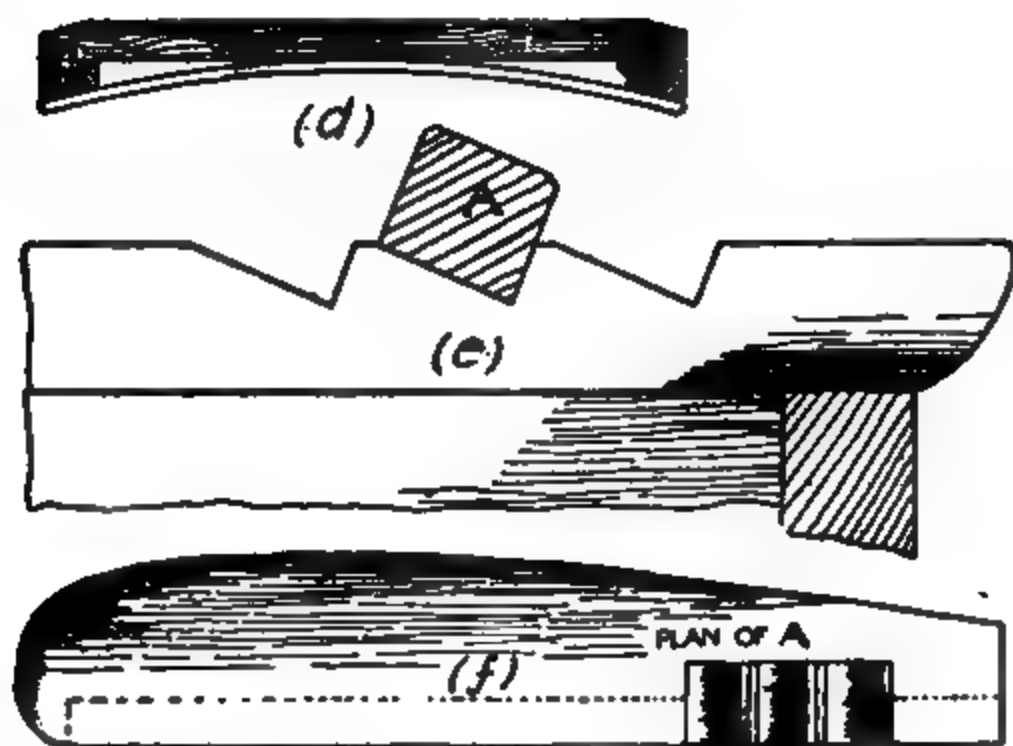

Fig. 41.—An adjustable garden chair.
**T**HIS chair (Fig. 41, *a*) is light and strong, and has a back that can be adjusted to any of several slopes.
*Construction.*—Before cutting-out is commenced, draw the side elevation (Fig. 41, *b*) full size on a sheet of brown paper, in chalk. This will save time and make construction easier.
The *seat* is composed of boards not more than  $\frac{3}{8}$  in. thick, so that they may be curved to fit the front rail, as seen in Fig. 41, *a*. To hold them down in position a 2"  $\times$  1" rail must be fixed fore-and-aft (Fig. 41, *c*) from the centre of R2 to C. It is notched into R2, and screwed to the under side of C. When this is in position the seat boards—the front one
The uprights,  $U U$ , of the *back* are 2 ft. 3 in. long and  $\frac{1}{4}$  in. narrower at the top end than at the bottom, for lightness' sake. They are held together behind by two cross-rails,  $E$  and  $F$  (Fig. 41, *b*). The ends of these rails are bevelled off, and the front faces of  $U U$  are shaped, as shown in Fig. 41, *d*, to the curve of the laths, which have to be nailed on,  $1\frac{1}{2}$  in. apart, to support the sitter's back. The laths must be straight-grained and free from knots, and be dipped in water before being bent. Nail on the top and bottom laths first. These touch the back rails, and will serve as gauges for the curves of the others. Allow a little "spare" at each end of the laths, to be removed when nailing is finished. Put a nail in at one end, bend the lath to the curve required, and drive in a nail at the other end; or a temporary batten may be screwed through the top and bottom laths into  $E$  and  $F$ , parallel to  $U$  and  $U$ , to hold all the other laths in their proper positions for nailing. When the back is complete, hinge it at  $B$  to  $C$  with a couple of "back flaps" (Fig. 41, *b*).
The *arms* are of  $3'' \times 1''$  wood, shaped as in Fig. 41, *f*. The edges, except on the inside, are rounded off. Nail the arms to the top of the legs,
The *adjustment* for the back is effected by notching the rear part of the arms (Fig. 41, *b*, *e*, and *f*) to take a loose bar, A, 1 in. square in section. This bar is attached at the centre to E by a spiral spring, to prevent it jumping out of place or being lost.